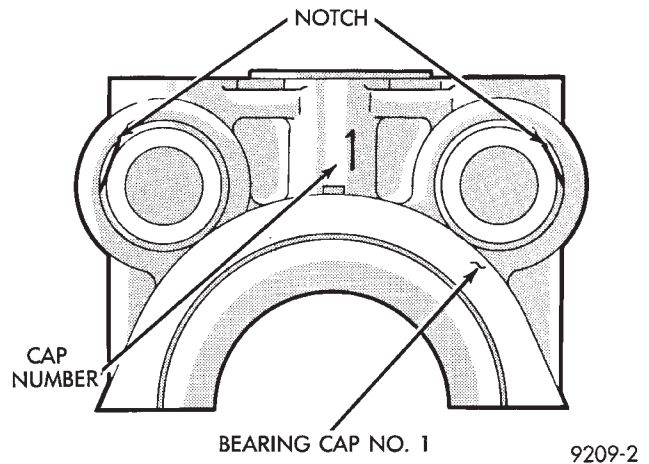

Fig. 9 Number One Camshaft Bearing Cap
Identify number one bearing cap number one and number four caps are similar (Fig. 9).
(2) Install rocker shafts so that bearing cap number one with end notches positioned as shown in Figure 9 that the machined portion of the rocker shaft is facing down.
(3) Insert attaching bolts to retain assembly.